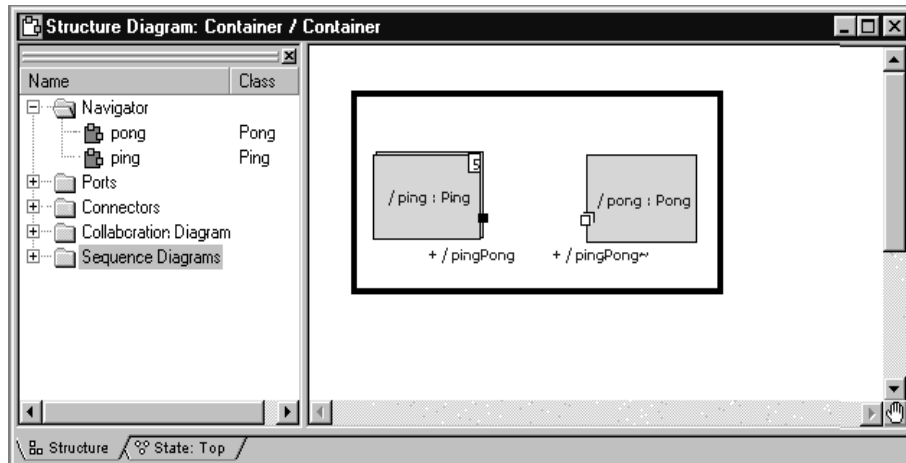

Figure 28 Removing the connector between ping and pong
3. Open the Container capsule’s structure diagram as shown in Figure 28.